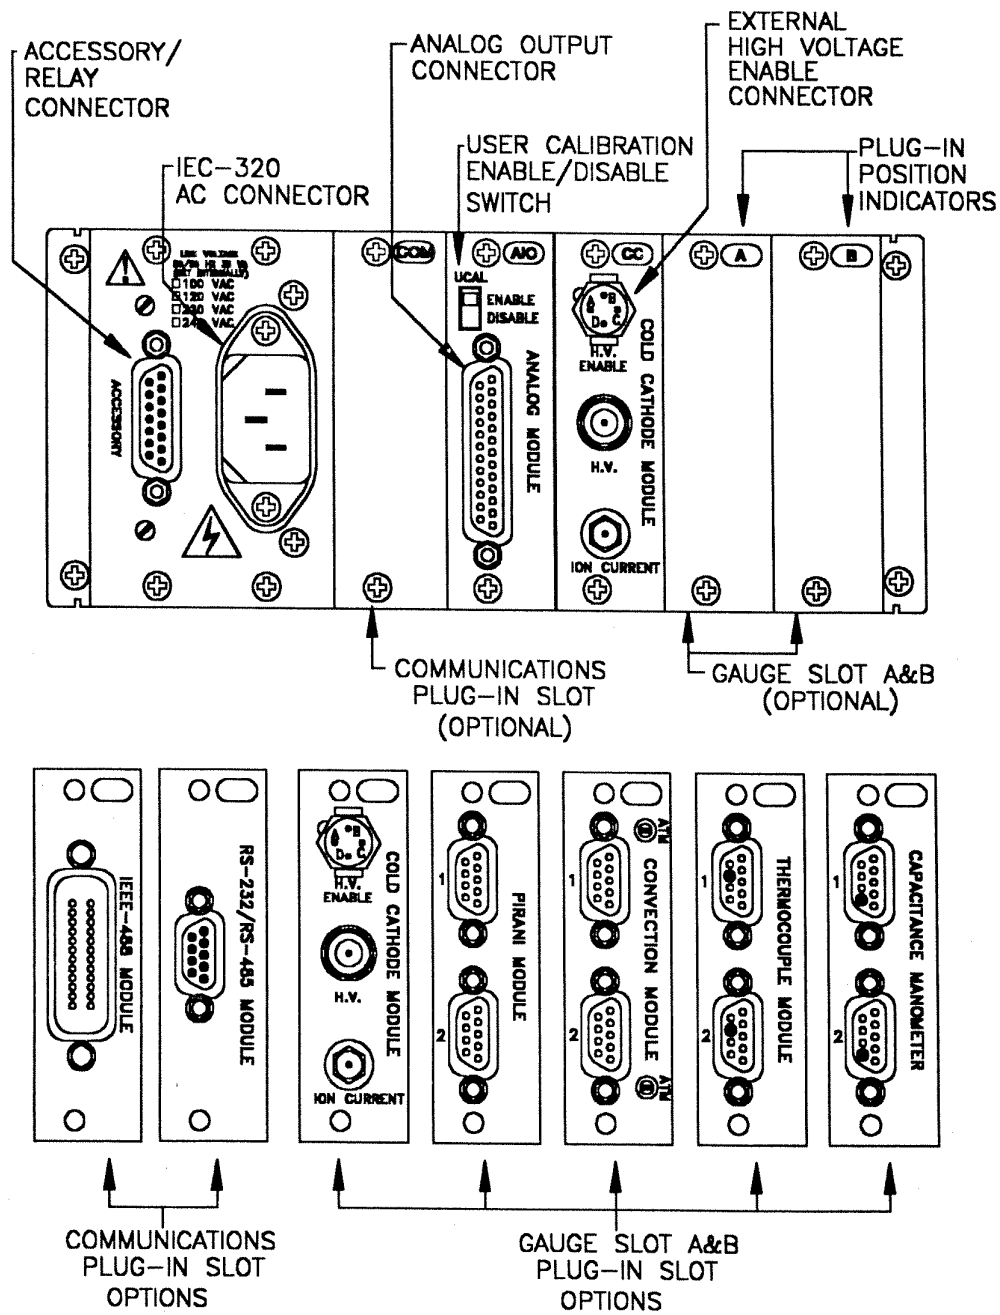

FIGURE 2 - REAR PANEL
6. REAR PANEL DESCRIPTION (See Figure 2)